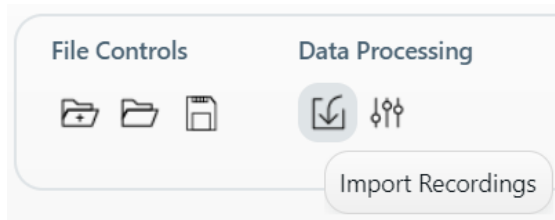

Figure 19. Import Recordings icon in IDS2.
6. Once the project has been created, it is ready to import recordings from a Pulsoid output folder. Start by clicking on the 'Import Recordings' icon (Figure 19).